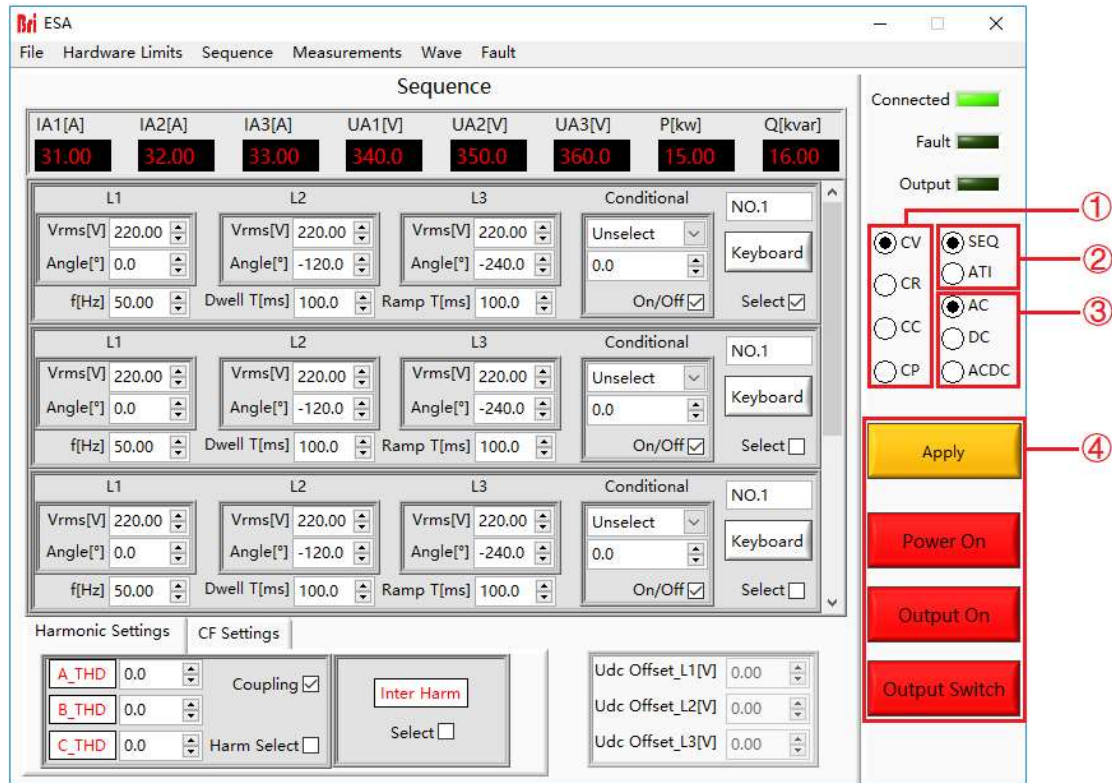

Figure 5-2 Sequence Mode and input/output control
On the right side of the sequence mode Panel, the user can select the power supply operating mode, parameter input mode and output mode according to the test requirements (Figure 5-2①②③).